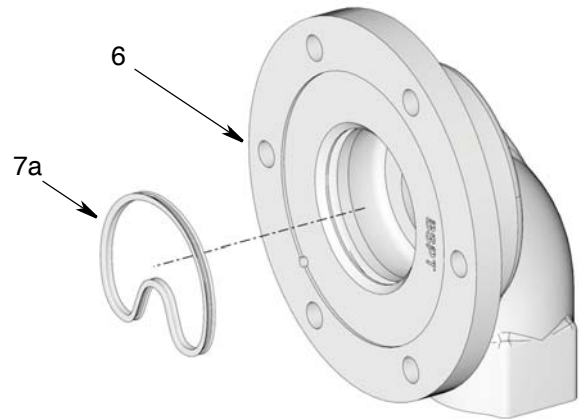

FIG. 41
- d. Install the white seal (7a) over the o-ring (7b) (FIG. 41).